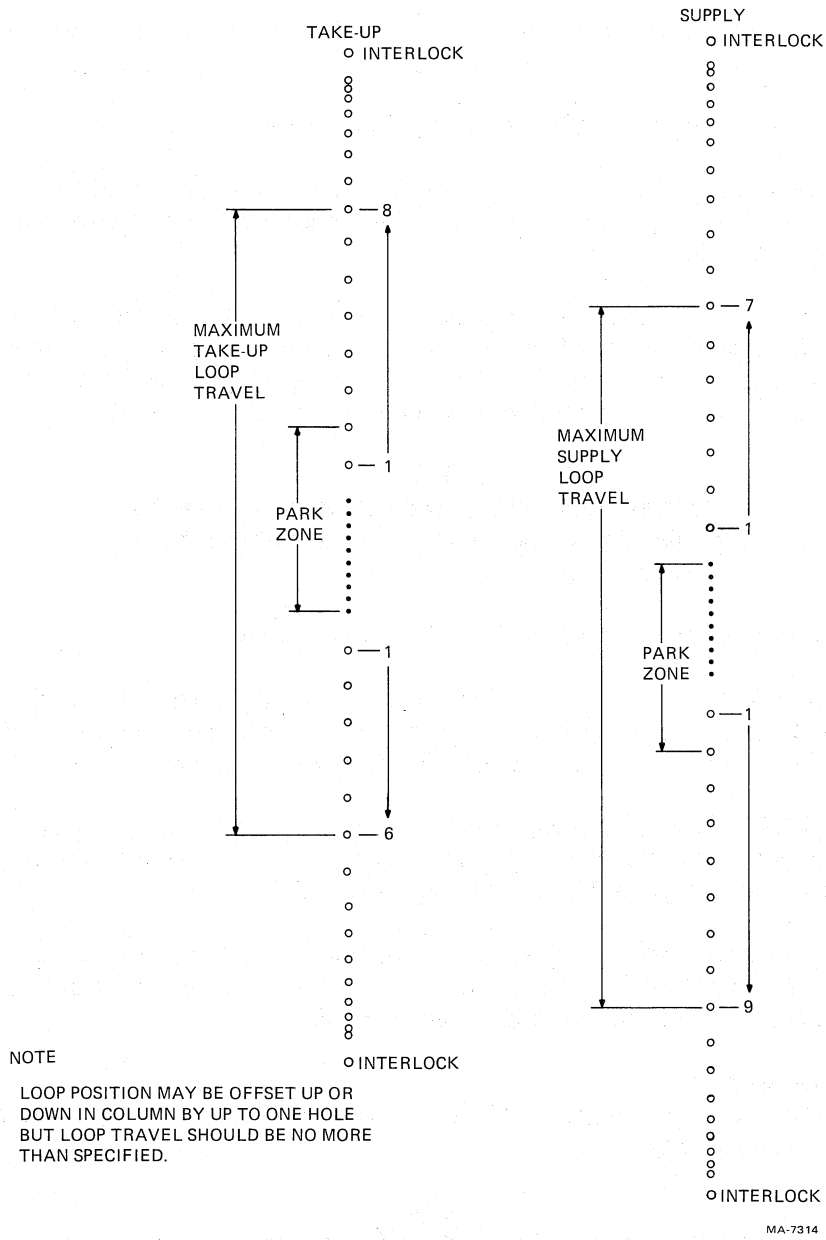

Figure 6-13 Loop Travel Limits
34. Fine tune the position (R9) and gain (R31) potentiometers so the take-up loop matches the boundaries shown in Figure 6-13. The position potentiometer moves the loop excursion up and down in the column.